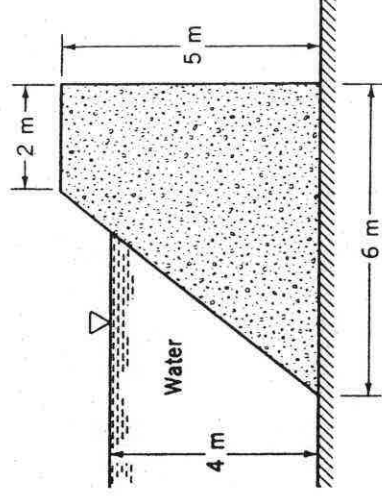

FIGURE P2.59
2.59 The concrete dam of Fig. P2.59 weighs 23.6 kN/m^3 and rests on a solid foundation. Determine the minimum coefficient of friction between the dam and the foundation required to keep the dam from sliding at the water depth shown. Assume no fluid uplift pressure along the base. Base your analysis on a unit length of the dam.